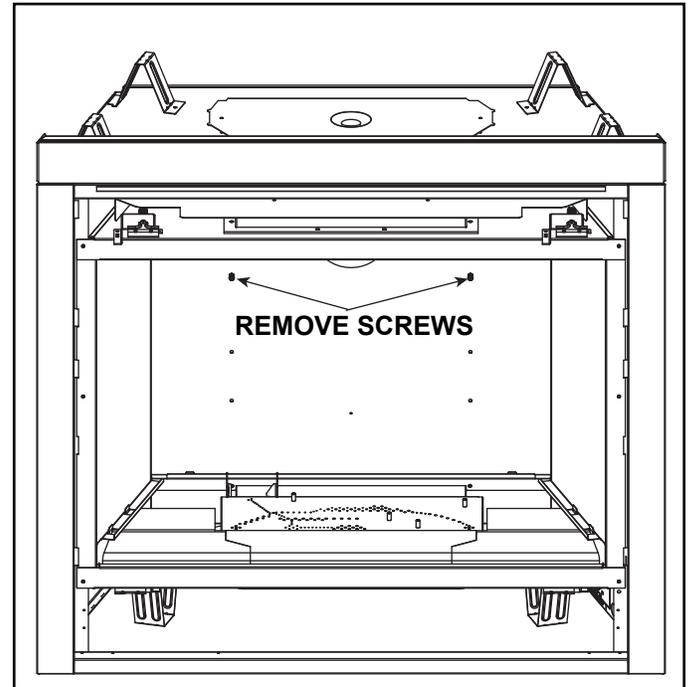
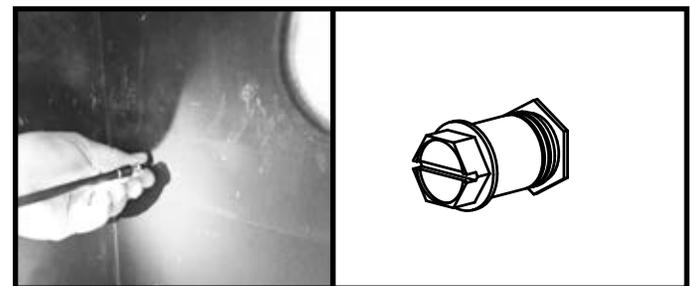

Figure 5. Remove Screws
Figure 6. Install Sleeves
7. Locate, remove and discard the two screws located below the rear exhaust hole. See Figure 5. Install the sleeve onto each 1-1/4 inch (32 mm) screw and install in holes. See Figure 6.